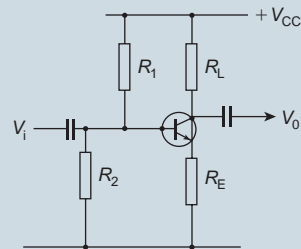

Figure 14.30
- In questions 11 to 15, which refer to the amplifier shown in Fig. 14.30, select the correct answer from those given.